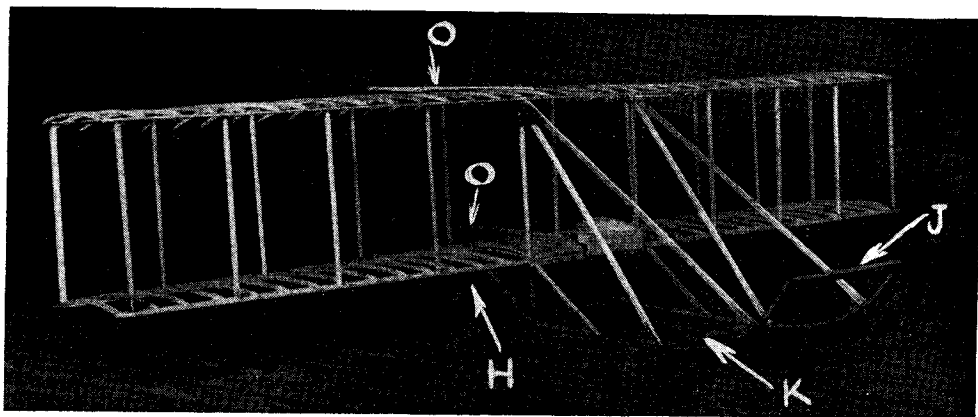
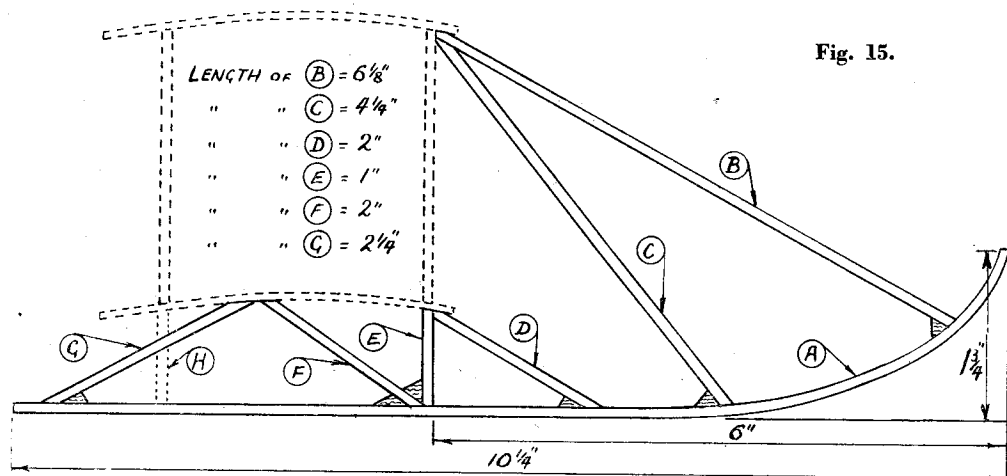
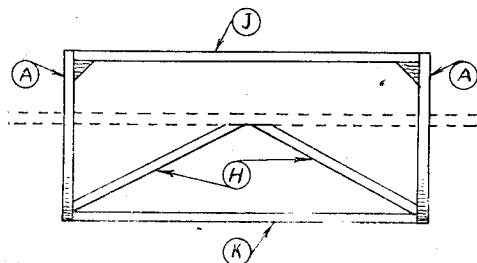

Fig. 14. Biplane structure with outriggers and tail-booms attached.
Fig. 15.
Fig. 16.
AS mentioned in a previous article, the "Wright" biplane was not, at first, fitted with a wheeled undercarriage, but possessed a pair of skids which were swept upwards at the front to carry the elevator. These skids may now be made and fixed to the model, and the photograph, Fig. 14, shows the framework thus completed. Fig. 15 gives details of the arrangement of one of the skids and its bracing struts, and two
secured by means of pins until the cement is hard. When set enough to handle, two cross-bracing struts are added beneath the wing, as may be seen in Fig. 16. This drawing represents a view of the undercarriage from the front, and should be viewed in conjunction with the photograph and Fig. 15. In Fig. 15 will be seen a spar in dotted line marked (H), which is one of the two bracing struts shown in full line in the front view in Fig. 16. In the photograph (Fig. 14), one of these struts, marked (H), may be seen beneath the wing, and it will be noted that they run from the skid to the centre of the lower wing.
the rest of the undercarriage is of  $1/16$  in.  $\times$   $1/16$  in. similar wood. All the small corner blocks, as shown in Fig. 15, should now be cemented into place. On looking at Fig. 16 it will be seen that there are also
the exact shape thus being easily obtained. The plates are fixed to the spars with cellulose cement, and, when in position, the rivets may be successfully imitated by denting the aluminium with the point of a scriber. They are seen quite well in Fig. 14.
ensure that the spar projects horizontally from the wing top. On both top and bottom wings the spars are cemented to the top wing surface, as may be seen in Fig. 14, marked (O), which shows how your structure should appear at this stage.